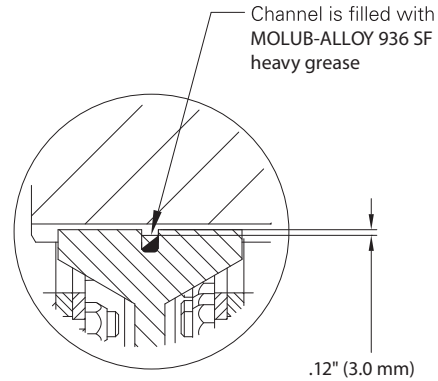

Figure 3
2.2.6 Pre-fill the grease channel in the friction disc splines (if applicable) with MOLUB-ALLOY 936 SF Heavy or equivalent grease, as shown on Figure 3.